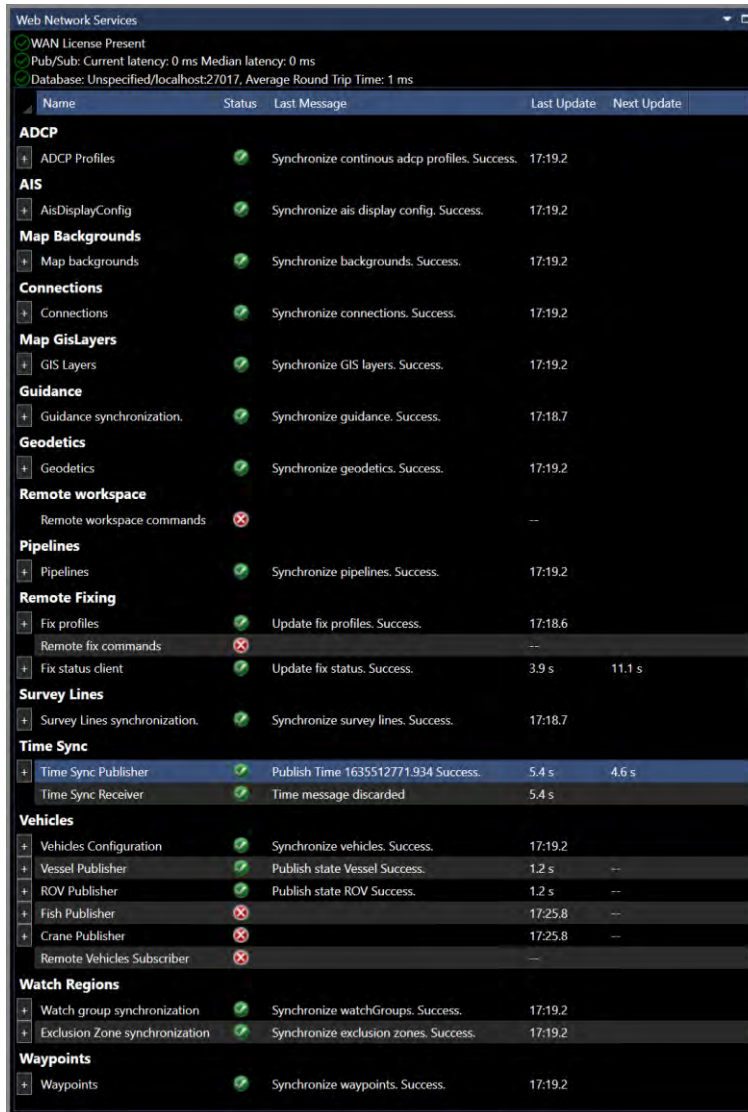

FIGURE 23-6 WEB NETWORK SERVICES WINDOW - ONLINE NAVVIEW
1. Select **Network Services** from the Windows section of the View ribbon, this opens the Web Network Services window (see Figure 23-6)